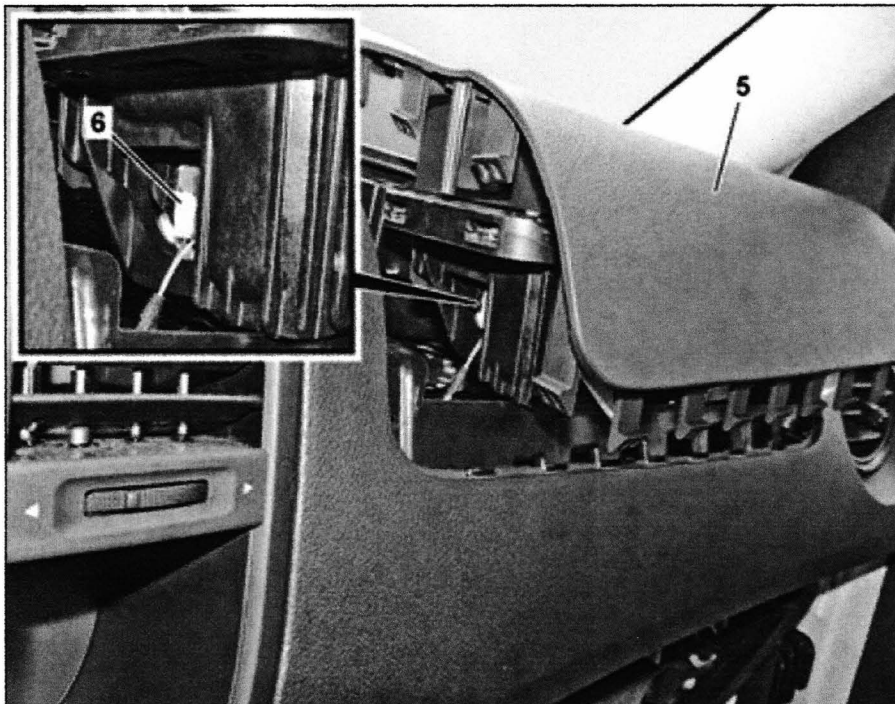
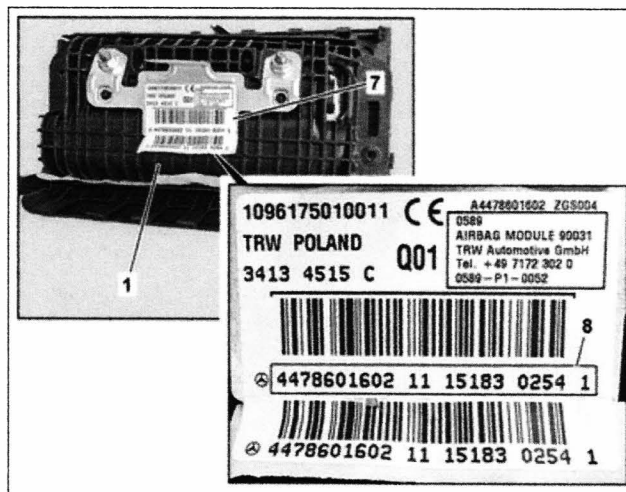

Figure 5 (5 Cover 6 Electrical connector)
Figure 6 (1 Air bag 7 Label with barcode 8 22 digit characters)
6.  Disconnect electrical connector (6, Figure 5).
-  **Installation note:** Ensure that electrical connector (6) is correctly locked.
7.  Push front passenger airbag (1, Figure 4) with cover (5, Figure 5) upwards out of dashboard and remove.
8. Record 22-digit characters (8, Figure 6) for new front passenger airbag (1) found on adhesive label with barcode (7) prior to installation.
9.  Install new air bag (1, Figure 6) in reverse order.
- Install new front passenger airbag (1, Figure 6) with cover (5, Figure 5).
- New front passenger airbag (1, Figure 6) with cover (5, Figure 5) is supplied as a unit.
- When installing new front passenger airbag (1, Figure 6), check cover (5, Figure 5) is correctly seated in dashboard.
11. Record 22-digit characters (8, Figure 6) found on adhesive label with barcode (7) of new front passenger airbag (1) on repair order.